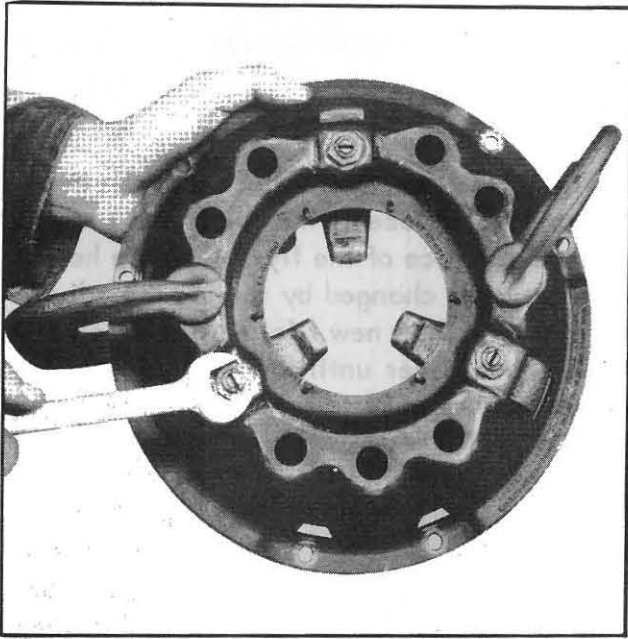

Fig. 126
1. Compress the clutch cover uniformly in a press or with C-clamps, as shown in Fig. 126. Remove the adjusting nuts with a wrench.